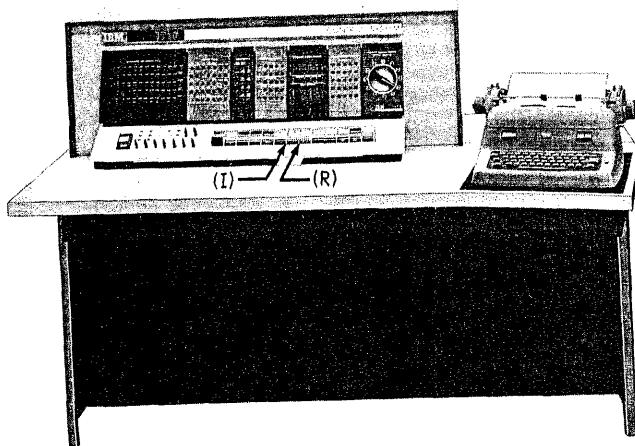
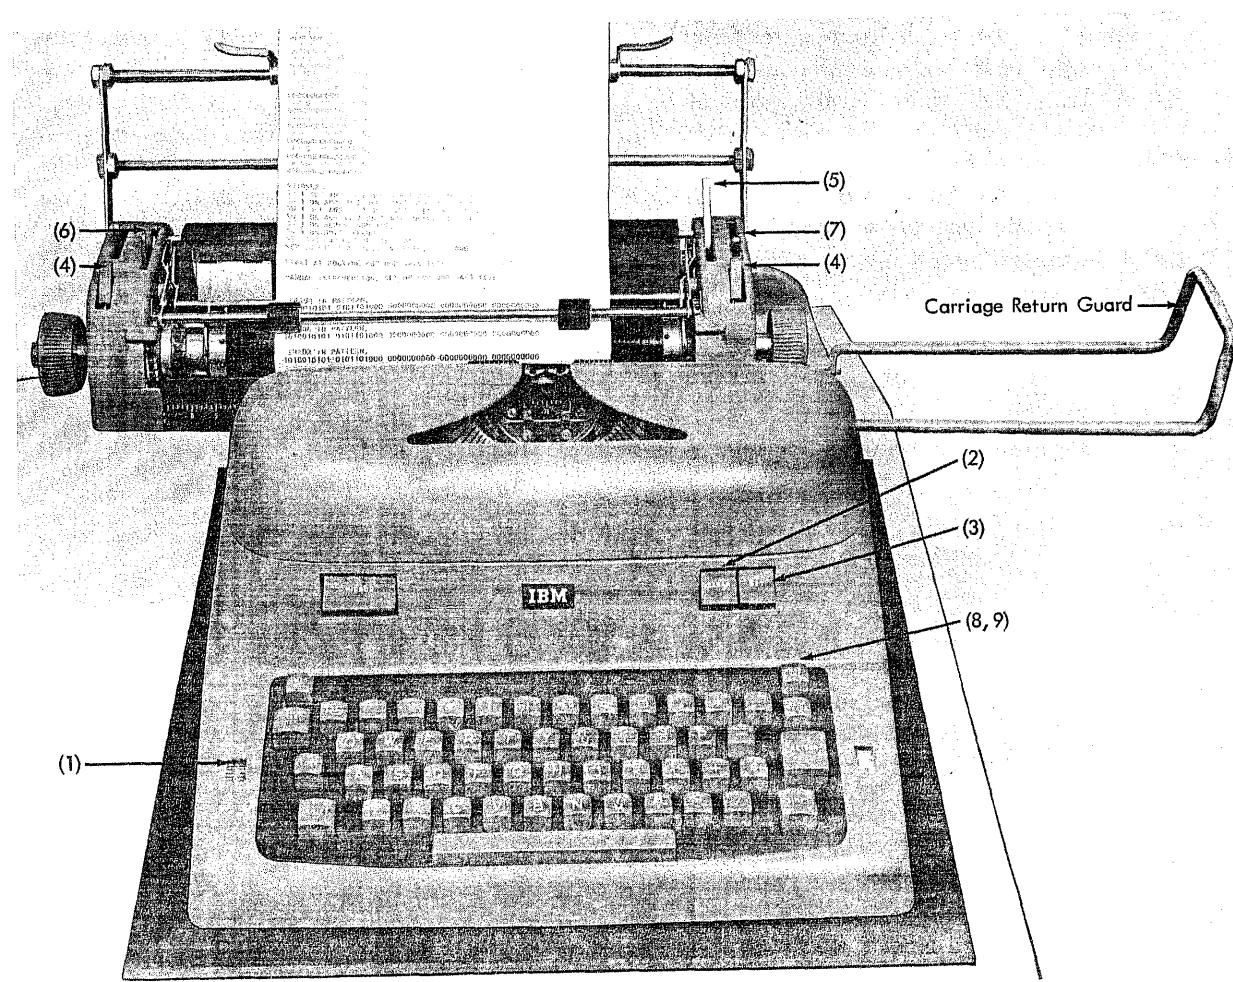

Figure 50. IBM 1620 CPU with I/O Typewriter
Figure 51. I/O Typewriter, Manual Controls and Keys
The 1620 console typewriter (Figures 50 and 51) is the principal communicating link between the operator and the system.
The 1620 console typewriter is used to enter data and instructions directly into core storage. Off-line use is not possible because the keyboard (Figure 51) is locked except when entering data. Pressing the console Insert key (see Figure 50, I) unlocks the keyboard and permits data to be entered into core storage, starting at location 00000. Each depression of a typewriter key enters a character into core storage one location higher than the previous character. As many as 100 characters can be entered from the typewriter. After the 100th character is entered, an automatic release is initiated and the machine returns to manual mode. The Start key may then be used to start program operation at 00000.
If a record mark is required in core storage following the last character entered, the Record Mark key on the typewriter must be pressed before pressing either the r-s key on the typewriter or the Release key on the console (Figure 50, R). Pressing either key again locks the keyboard and gives the computer an end-of-input/output indication.
The numbers preceding each of the following headings refer to numerals on Figure 51 designating particular keys, etc., (1), for example, designates the Impression indicator.
1. Impression Indicator. The lever under this window can be positioned in settings from 0 to 10, and determines the force with which the type bars strike the paper. The higher the indicator setting, the harder the type bars strike. To test for the correct setting, move the indicator up until the comma and period print distinctly but not heavily. Use a higher setting for multiple copies, but be sure that the multiple copy lever (7) is also correctly set before finally adjusting the impression.